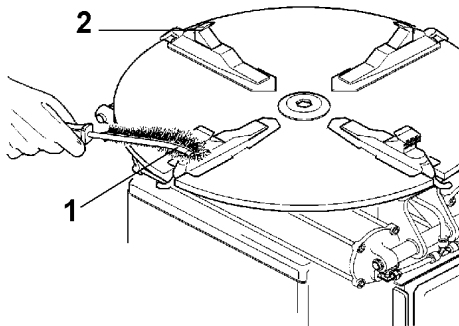

Fig. 6.0-2
C. See Fig. 6.0-2. Weekly clean the teeth of the clamps (1) with a wire brush, check the nylon clamping jaw insert (2) and replace if worn.